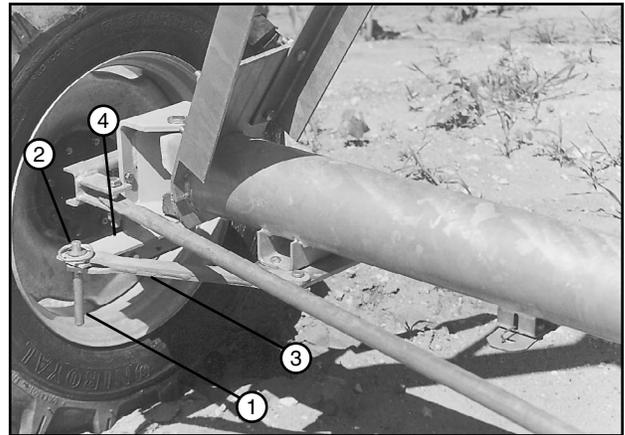

Figure 39-2 1. Lynch Pin
10. Remove lynch pin from each torque pin, then remove each torque pin and disconnect the tow link bars from the gearbox mount steering arms. Install each torque pin back in the steering arm hole and secure with lynch pin. See figure 39-2.